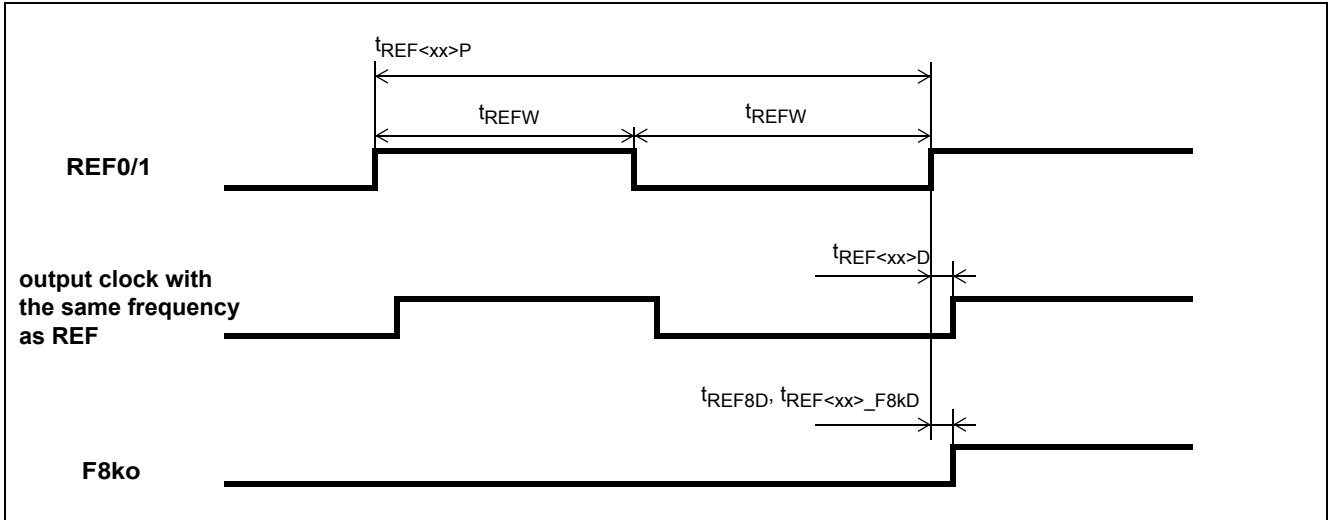

Figure 15 - Input to Output Timing
**AC Electrical Characteristics\* - Input timing for REF0 and REF1 references (see Figure 15).**
**AC Electrical Characteristics\* - Input to output timing for REF0 and REF1 references (see Figure 15).**